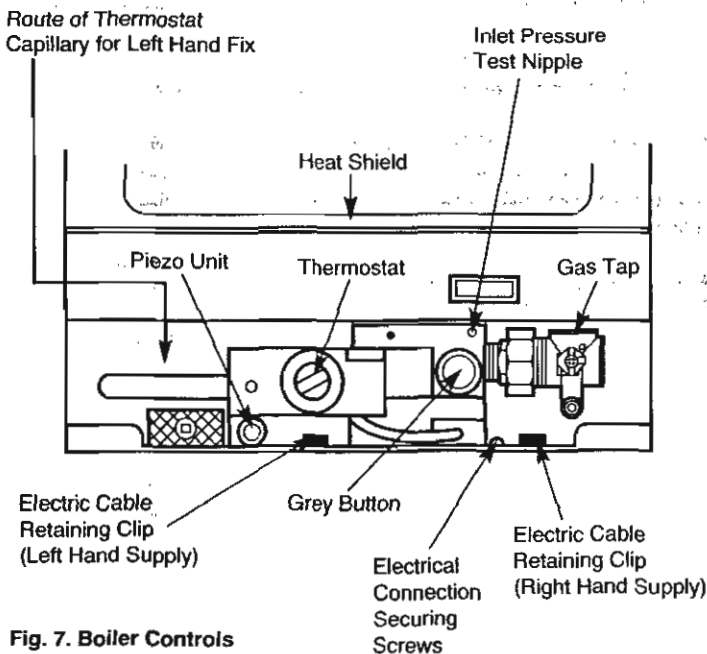

Fig. 7. Boiler Controls
- Route the thermostat capillary under the heat shield and up the left hand side (Fig. 7). The thermostat phial now fits in the pocket at the LEFT HAND SIDE IN THE LOWER SECTION. Replace two right angled captive nuts and refit the front panel.
4. Remove the controls heat shield and the gas service tap (Fig. 7).
The cable within the builders opening should be 0.75mm2 to IEC 227 Code 53 (heat resistant). It is preferable to have the electrical supply cable coming from the right hand side of the builders opening. If however it must come from the left hand side it must be fitted to the alternative clip provided (Fig. 7). It is important to route any input cable to avoid contact with the combustion box sides. To connect the electrical wiring to the boiler proceed as follows.
(Fig. 7).
- (h) Clamp the cable(s) in the plastic clip (fig 7).